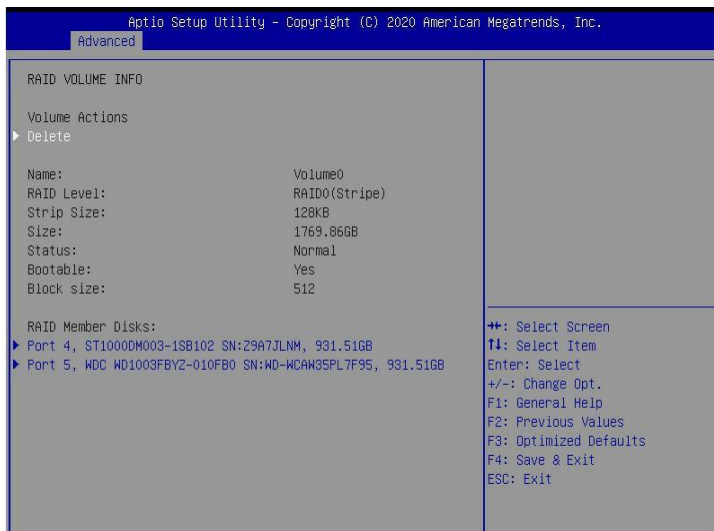

Figure 6-12
- c) Enter the RAID information interface shown in Figure 6-12, select Delete, and press Enter to delete the RAID.
❖ Figure 6-12 RAID Information Interface